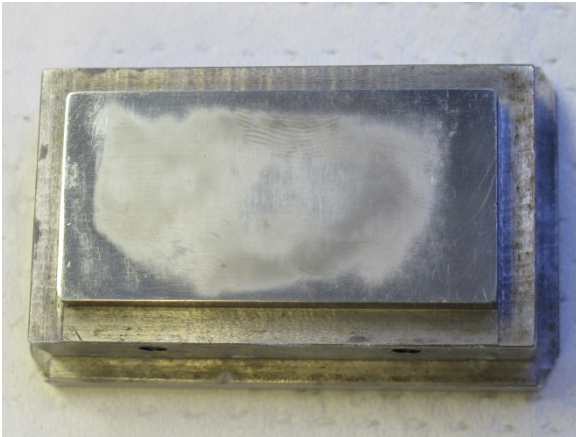

Figure 1
2. Remove the sides of the sample holders with a flat head screwdriver. The face of the sample holder will be scuffed up after use (Fig. 1)